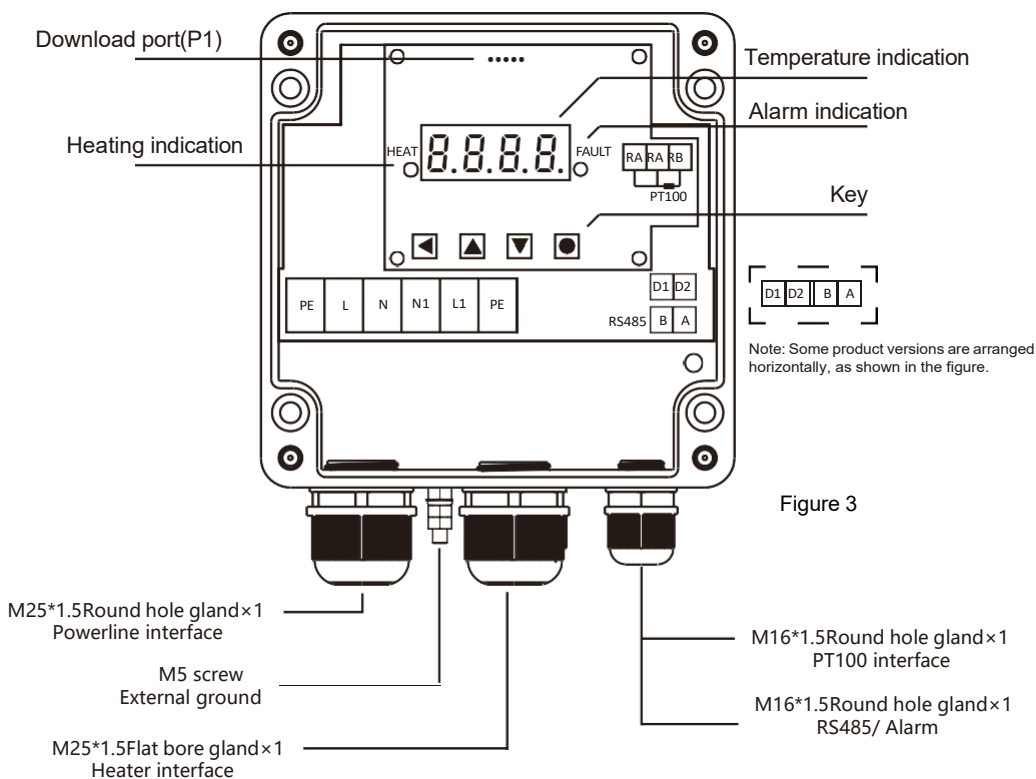

Figure 3
2. Display keys and terminal layout are shown in Figure 3.
- 1) Wires are connected according to Figure 3 and the function codes in Table 2.
1. As shown in Figure 3, the controller display and buttons are described as follows: